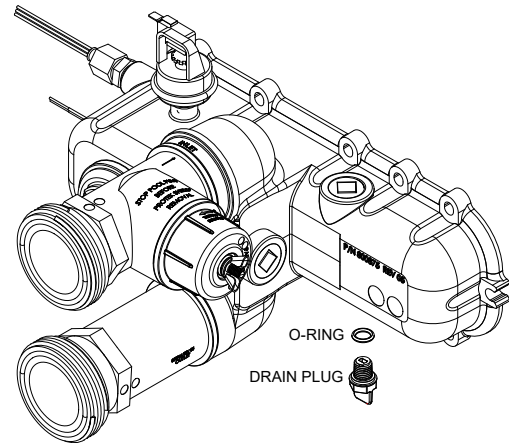

Figure 74. In/Out Header with Drain Plug
2. On the water connection, close any isolation valve to isolate the heater. Remove the lower right access panel to reveal the right side of the Inlet/Outlet header. The drain will be located underneath the header. Loosen and remove the drain plug. See **Figure 74**.